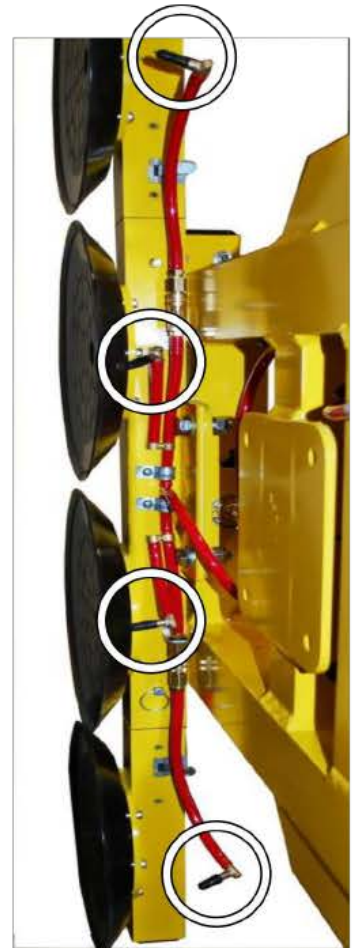

FIGURE 10
- 18) Remove the pad fitting from each vacuum pad of both pad arms and cap off each of the pad fittings. See **FIGURE 10**, circled pad fittings with caps.
Note: **FIGURE 10** shows four 90° elbow pad fittings. If your lifter was built before February 2010 it will have tee pad fittings on the center two pads. Regardless of the configuration the process is the same, remove and cap the pad fittings.